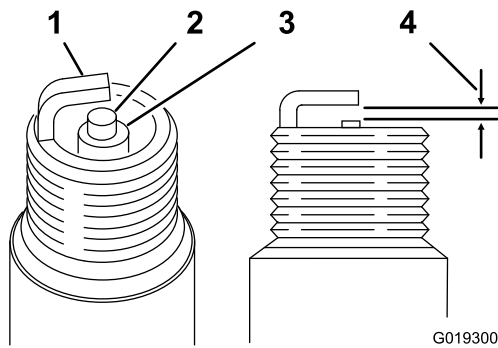

Figure 26
- Examine the plug for wear and damage (Figure 26).
- Check the spark-plug gap with a wire gauge. If necessary, adjust the gap to 0.76 mm (0.030 inch) by carefully bending the ground electrode (Figure 26).